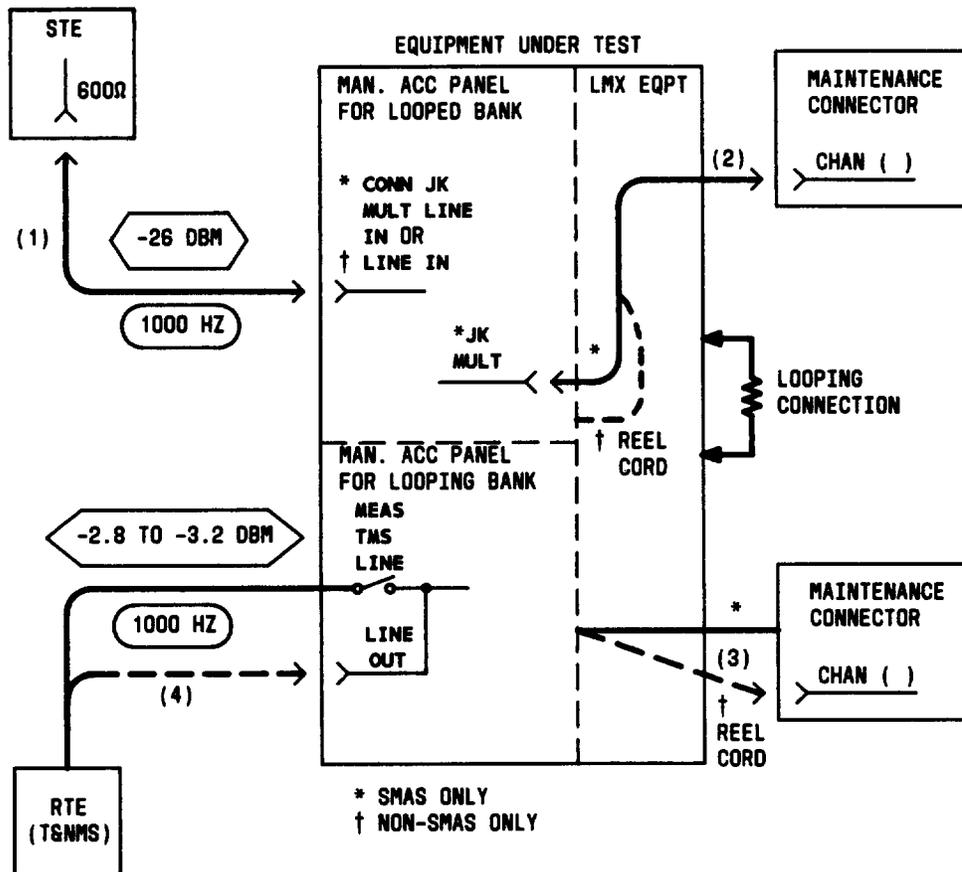

Fig. 14—Patching Diagram—Crosstalk Test—Equal-Level Looping—Channel Gain Verification (1000 Hz)
- 5a* Connect the STE to the *looped*-bank CONN JK MULT LINE IN jack (on the 22AR or AT MAP) [patch (1), Fig. 14].
- 5b† On an adjacent non-SMAS J98626() frame, connect the STE to the *looped*-bank LINE IN jack (on the 22AU MAP) [patch (1), Fig. 14].
- 6a* Connect the JK MULT connector (on the 22AR or AT MAP) to the CHAN BANK connector (on the maintenance connector) for Channel 1 of the **looped** channel bank under test [Test A, Table E, and patch (2), Fig. 14].
test) for Channel 1 of the *looped* channel bank under test [Test A, Table E, and patch (2), Fig. 14].
- 7b† Connect the retractable cord (on the 22AU MAP) to the CHAN BANK connector for the Channel 1 position for the *looping* bank [Test A, Table E, and patch (3), Fig. 14].
Note: If the T&NMS is not available via the MEAS TMS LINE switch, connect the RTE to the LINE OUT jack [patch (4), Fig. 14].
- 11 Remove patch (2), Fig. 14 [and patch (3), if used] from the maintenance connector(s).